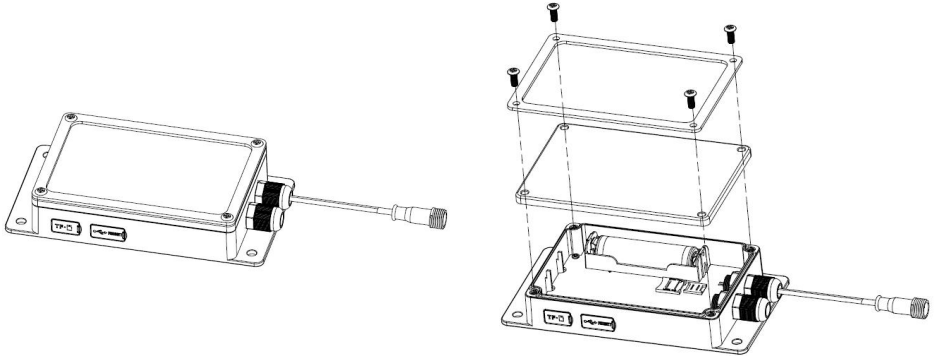
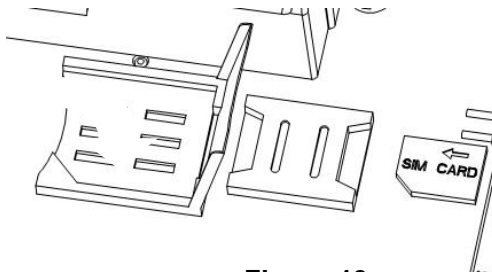

Figure 12
Figure 13
1. Before power on the device, please open the case (Figure 12) and use a 3G SIM card to install in one of the SIM card slots. (Figure 13).The Bigger slot is for micro SIM card and the other is for Nano SIM card.
Nano SIM card slot: Insert the sim card into slot directly as shown in Figure 13.